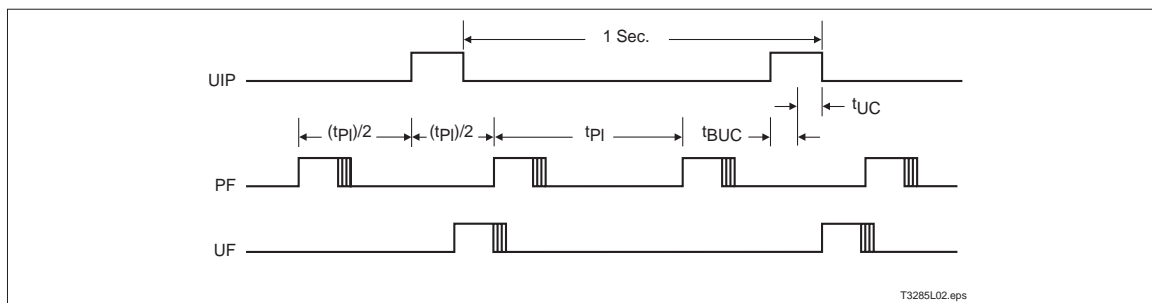

Figure 3. Update-Ended/Periodic Interrupt Relationship
- Enable the update interrupt event to generate interrupt requests at the end of the update cycle. The interrupt handler has a maximum of 999ms to access the clock bytes before the next update cycle begins (see Figure 3).
- Poll the update-in-progress bit (UIP) in register A. If UIP = 0, the polling routine has a minimum of  $t_{BUC}$  time to access the clock bytes (see Figure 3).
- Use the periodic interrupt event to generate interrupt requests every  $t_{PI}$  time, such that  $UIP = 1$  always occurs between the periodic interrupts. The interrupt handler has a minimum of  $t_{PI}/2 + t_{BUC}$  time to access the clock bytes (see Figure 3).